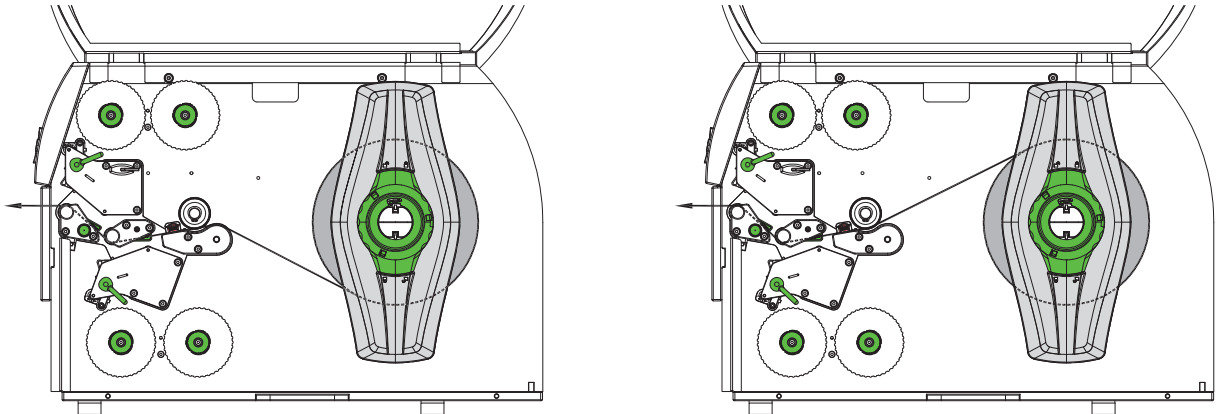
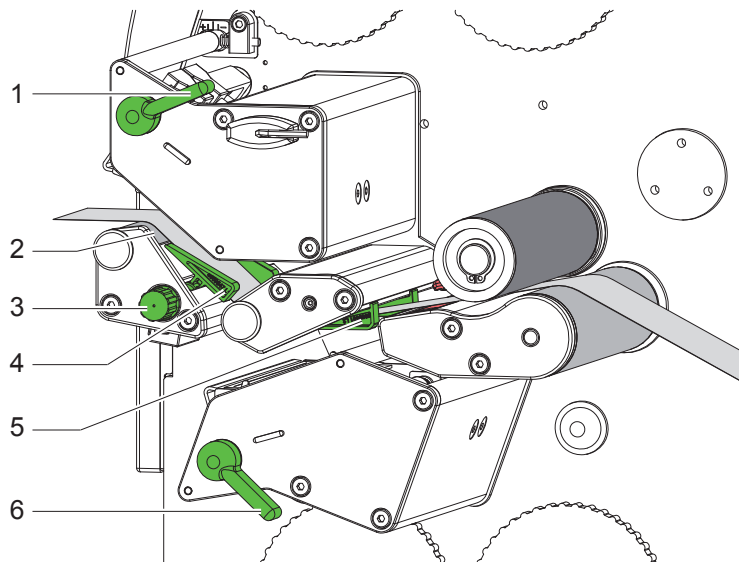

Fig. 8 Material feed path
Fig. 9 Inserting a media strip into the print mechanics
1. Unroll a longer material strip of approx. 50 cm. Guide the media strip to the print mechanics as shown in figure 8.
2. Turn lever (1) counterclockwise and lever (6) clockwise to lift both printheads.
3. Move guides (4,5) apart with the knob (3) until the media can pass between them.
4. Guide media strip through the print mechanics as shown in figure 9 to the upper print roller (2) and place the strip between the guides (4,5).
5. Move guides against the edges of the material by turning the knob (3).